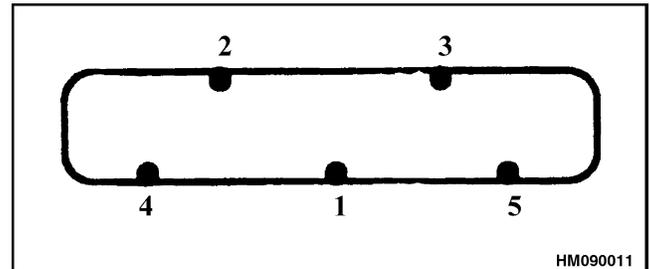

Figure 11. Rocker Arm Cover Tightening Sequence
- Tighten the rocker arm cover bolts to 6 N•m (50 lbf in) in the sequence shown in Figure 11.